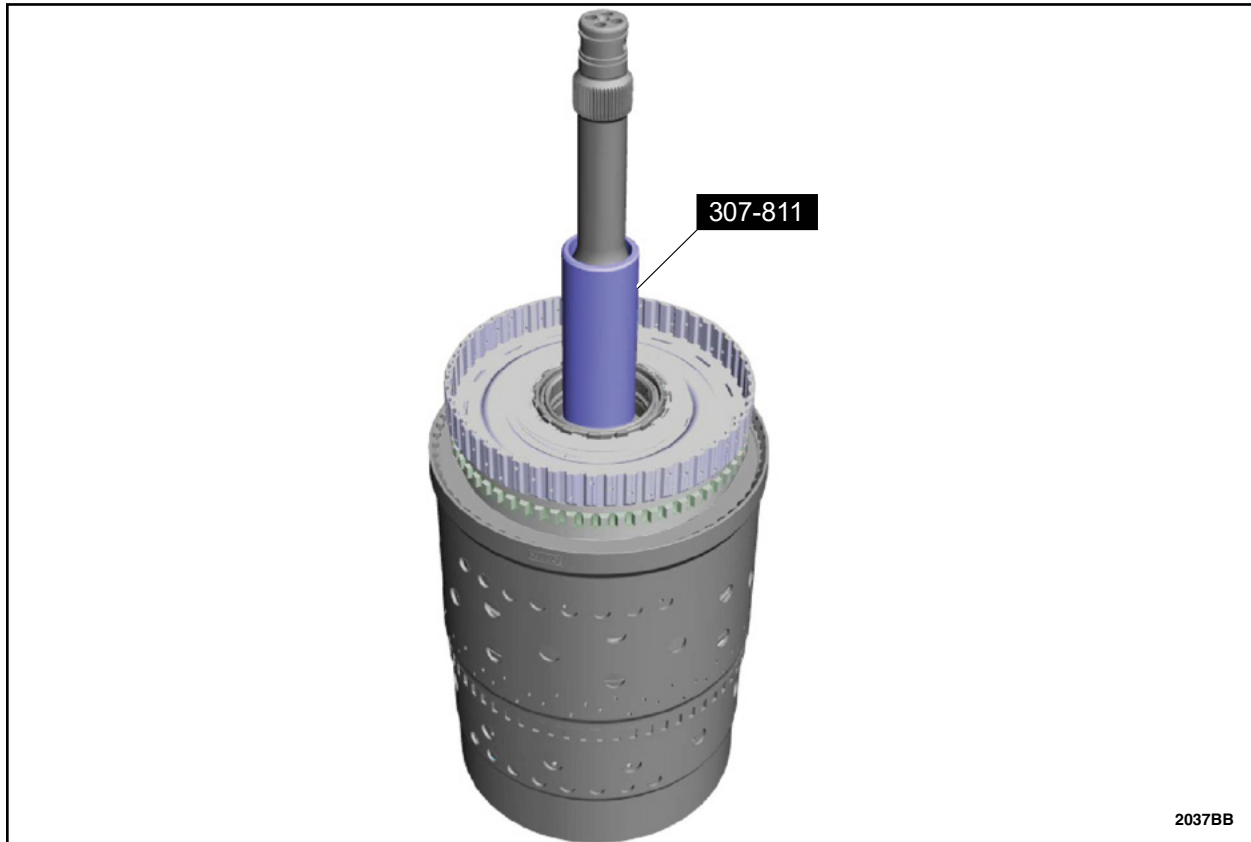

FIGURE 21
23. Install special tool 307-811 to size the 7 Teflon® seals to the input shaft. See Figure 21.